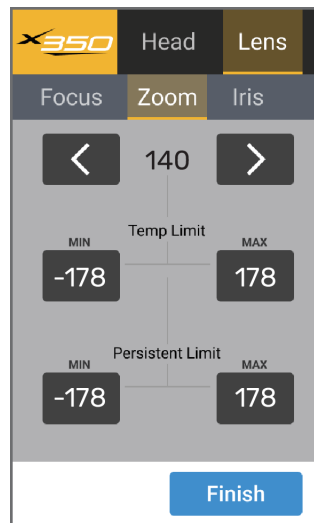

Figure 36 - Zoom Axis Controls
2. Use the main tabs (**Head** and **Lens**) and their sub-tabs to navigate to the axis you want to operate. For example, **Lens > Zoom** (**Figure 36**).